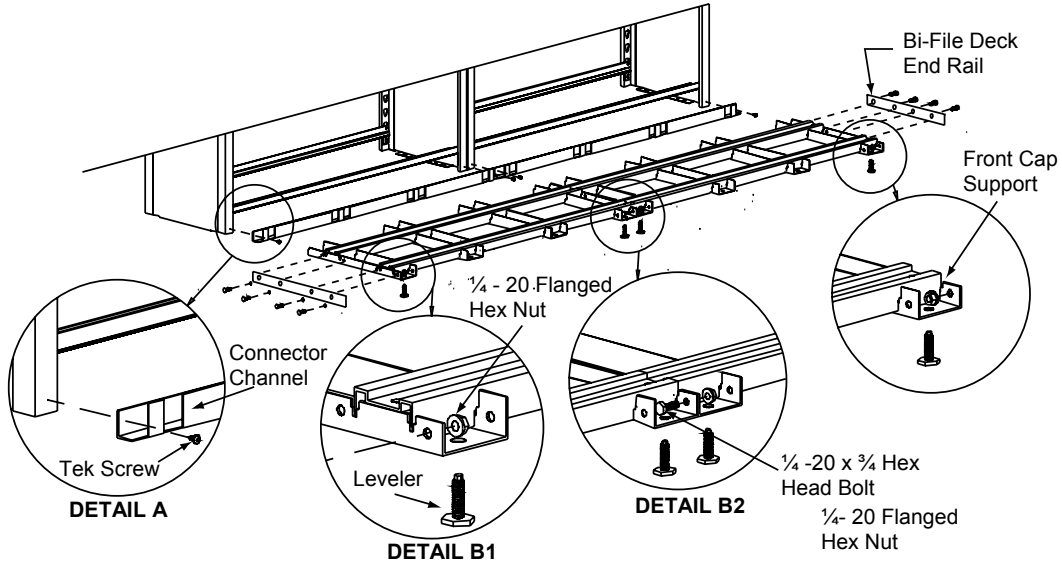

FIGURE 2
- STEP 1** Install Levelers in Deck sections making sure that each one is screwed in and is flush with the bottom of the Deck. **See Figure 2, Detail B1.**
- STEP 2** Position Connector Channels on the front bottom of each stationary base; make sure sides are flush with upright posts. Attach each Connector Channel to the post uprights on the stationary shelving using #10 x 1/2 Tek screws. **See Figure 2, Detail A.**
- STEP 3** Attach the assembled Deck sections to the Connector Channels. The Deck assembly will have corresponding slots which will secure to the Connector Channel. **See Figure 2.**
- STEP 4** Join Decks together by using 1/4-20 x 3/4 hex head bolts and flange nuts. The number of fasteners will vary due to system size. The Deck sections will have corresponding holes for attaching side to side. **See Figure 2, Detail B2.**
- STEP 5** Secure Bi-File Deck End Rails to both sides of the Deck assemblies by using four (4) 1/4-20 x 3/4 hex head bolts and flange nuts. **See Figure 2.**